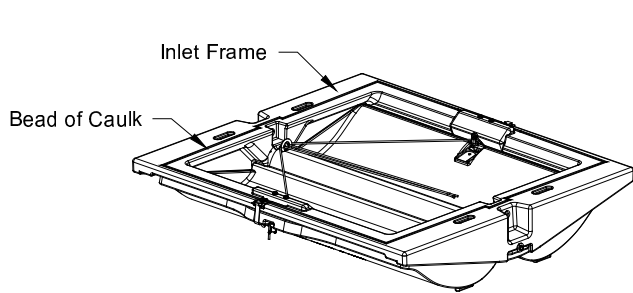
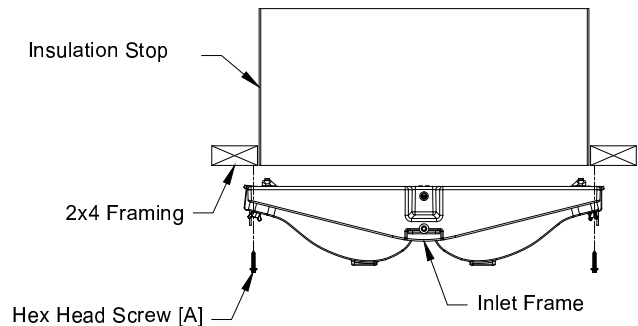

Figure 4A
Figure 4B
Apply bead of caulk around top of inlet as shown in *Figure 4A*. Position inlet into framed opening and attach inlet using Hex Head Screws [A] provided, (8) for BI28, (12) for BI48. *See Figure 4B*. Be careful not to over tighten as this may pull the Inlet Frame out of shape.